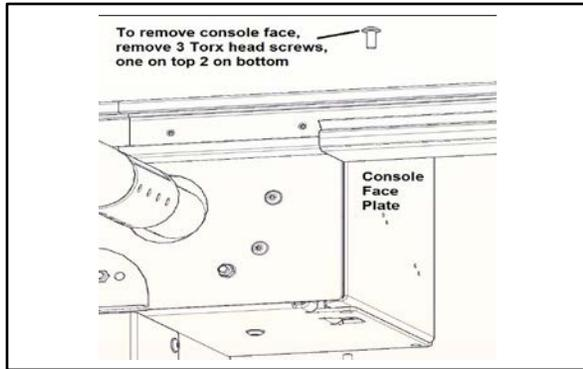

Figure 51
6. Removing the face of the console may provide greater access to belt. (See Figure 51.)